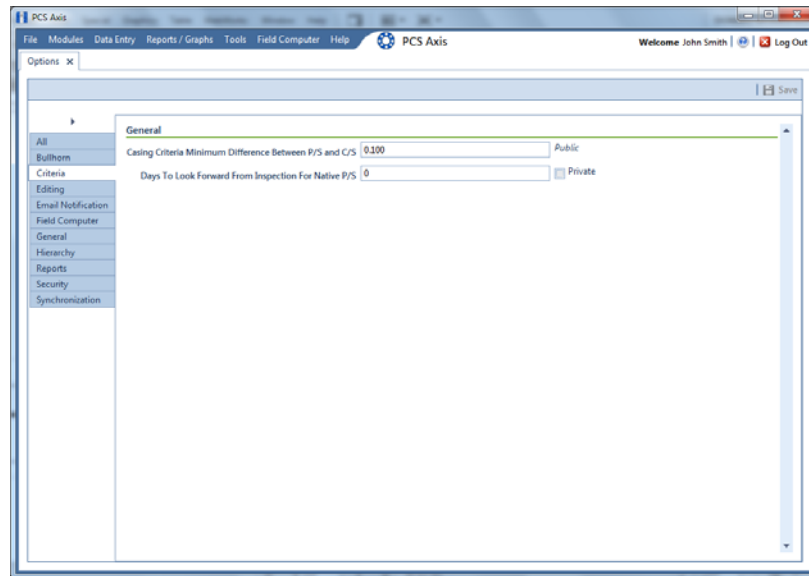

Figure 3-7. Criteria Options
- 1 If the *Options* window is not open, click **Tools > Options** to open the window. Then click the **Criteria** tab to open the *Criteria* options page (Figure 3-7).